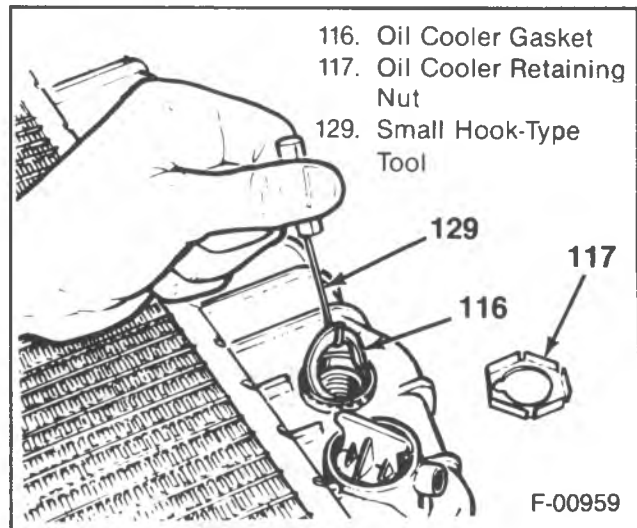

Figure 39 — Removing the Oil Cooler Gasket
Remove or Disconnect (Figure 39)
3. Press the oil cooler into the hole and remove the gasket using a small hook (figure 39).
Install or Connect (Figure 39)